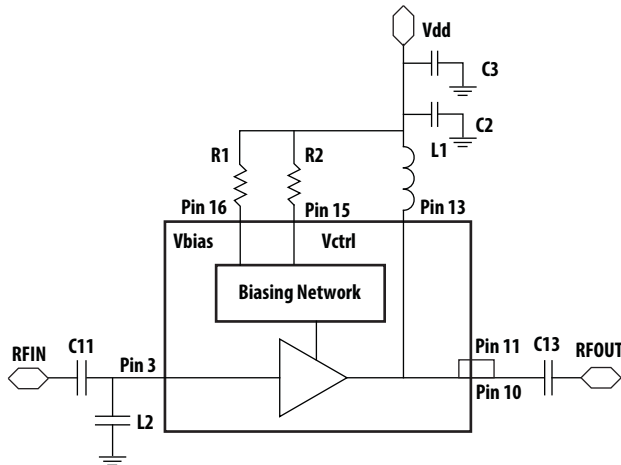

Figure 46. Application Circuit Diagram
1.  $V_{bias}$  and  $V_{ctrl}$  can be externally controlled by change external biasing resistors  $R1 = R_{bias}$  and  $R2 = R_{ctrl}$  (as shown in Fig. 46).
1. Vbias and Vctrl can be externally controlled by change external biasing resistors R1 = Rbias and R2 = Rctrl (as shown in Fig. 46).
- Vbias and Vctrl can be externally controlled by change external biasing resistors R1 = Rbias and R2 = Rctrl (as shown in Fig. 46).